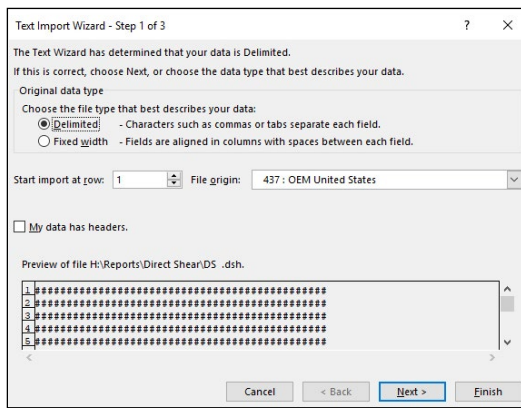

Figure 20: Text Import Wizard Step 1
5. Uncheck the box labeled **Tab** (Figure 20) and select the box labeled **Comma**. Select **Next** then **Finish**.